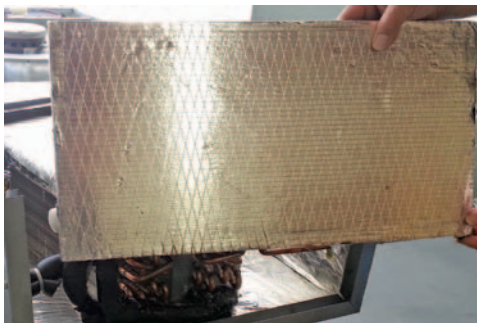

Fig 7-1.
2. If the bottom return air opening is being used, remove the bottom panel. If a front return is being used, this panel will remain in place (Fig 7-1).